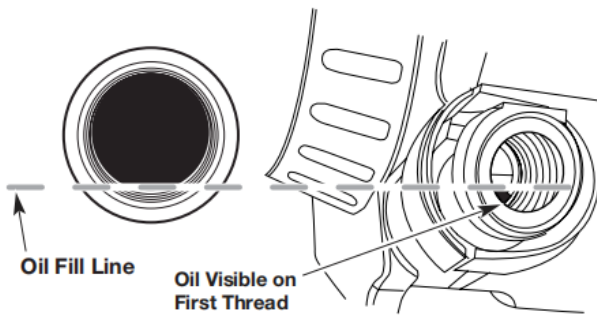

Fig. 10
- 5) Look into the oil fill hole; use a flashlight if necessary. Add oil to the oil fill hole until the oil level is visible on the first thread of the oil reservoir (Fig.10). If the oil level is too low, add oil to the oil fill hole until the oil level touches the bottom thread of the oil fill hole.